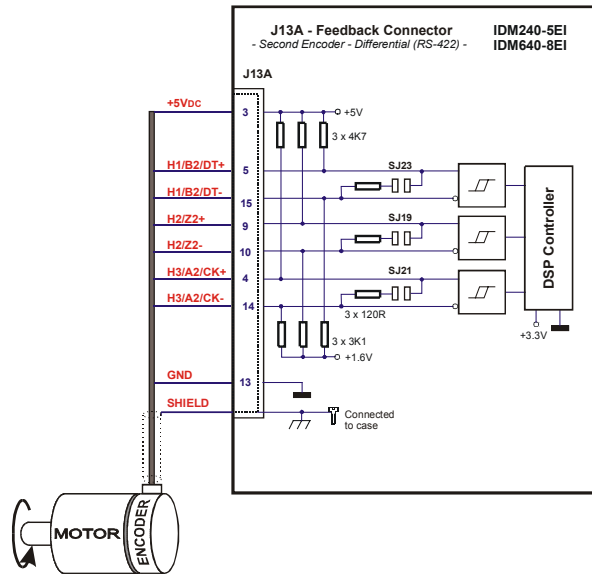

**Figure 1. J2 – Motor and supply connection**
1. Connect the power supply, the motor, encoder and halls to the IDMx40 – yEI drive as you can see in the Figure1, Figure 2, Figure 3, Figure 4 and Figure 5 respectively.